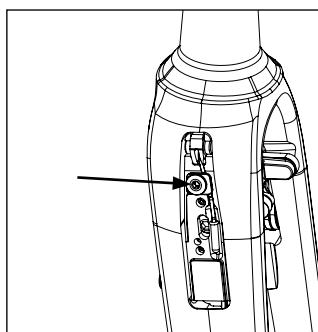

Fig. 20
- 10 / Once the adjustment is complete, tighten the cable using a 3mm Allen key to a torque of **6 Nm** (Fig. 20).